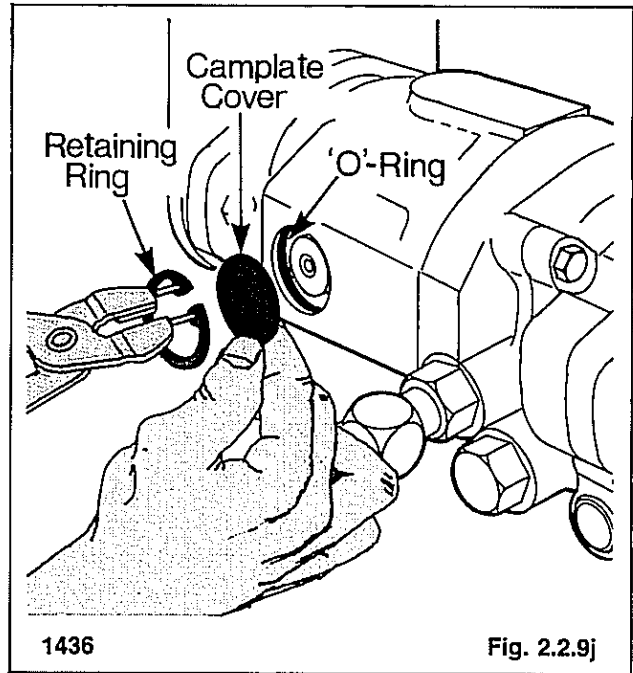

Fig. 2.2.9j
12. Remove the retaining ring and camplate cover from the opposite side of the pump housing (fig. 2.2.9j).
13. Remove the camplate cover O-ring (fig. 2.2.9j).